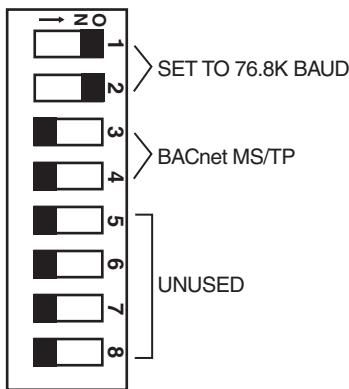

Fig. 11 — MSTP Jumper
4. Verify that the **MSTP** jumper is set to **MSTP**. See Fig. 11.
6. Set DIP switches 3 and 4 for MSTP. See Fig. 11.